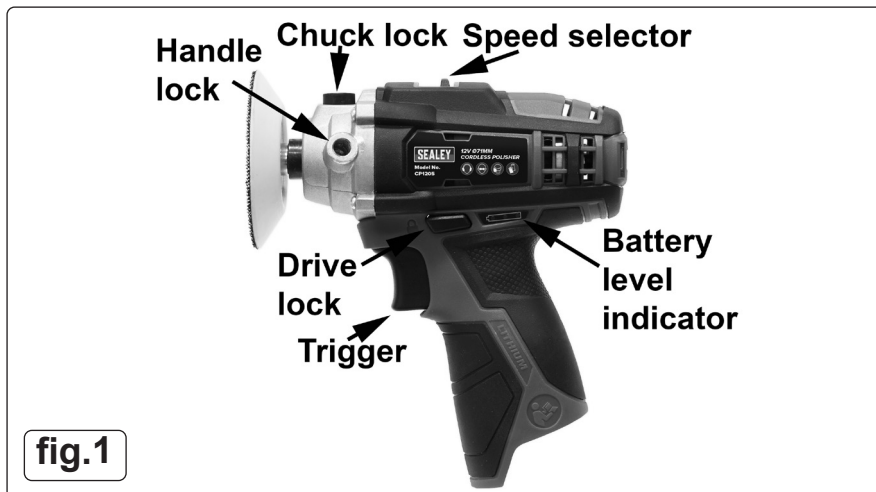

fig.1
- 4.1. To attach/remove the applicator pad depress the chuck lock button behind the chuck (fig.1) and screw/unscrew the applicator pad.
- 4.3. Attach the battery to the sander. The battery charge level indicator LEDs (fig.1) show charge (three green lights indicate full charge).
- 4.4. Set the required speed by use of the speed selector switch (fig.1).
- 4.5. Unlock the drive mechanism by use of the slide switch (fig.1).
- 4.6. Grip the side handle (not shown) and start the polisher by gentle and slow application of pressure on the trigger (fig.1).
- 4.7. Increase/decrease the speed of the polisher using the variable speed control trigger (fig.1) to suit the task in hand.